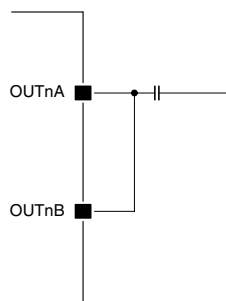

Figure 4. Connection without sag compensation circuit
*1. Refer to figure 4 or 5 in "Sag Compensation Circuit".